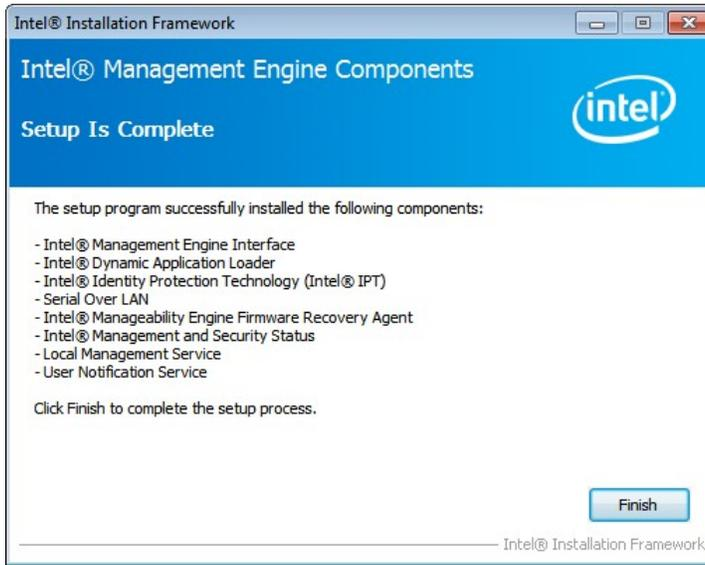

Figure 6-30: Intel® ME Driver Installation Finish Screen
Step 12: The Finish screen in Figure 6-30 appears.